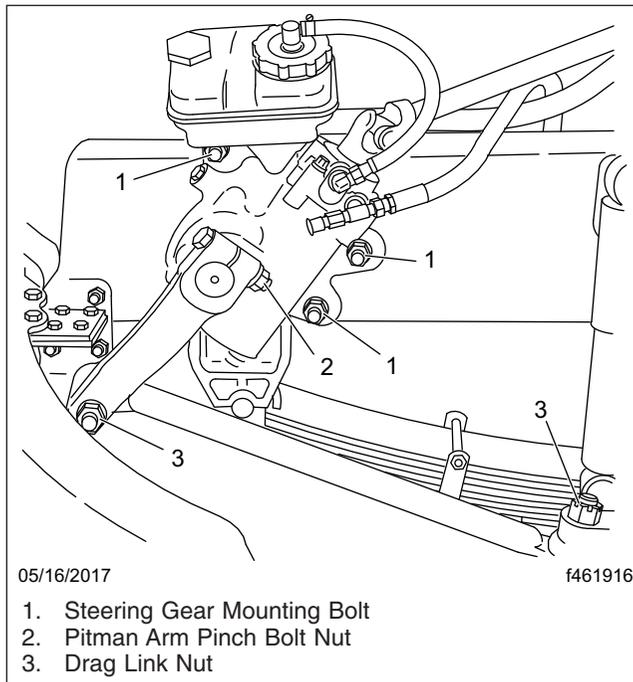

Fig. 12.12, Steering Gear Fasteners
3.1 Inspect tie rods, steering arms, and the drag link for signs of looseness (i.e., shiny spots or rust tracks). See Fig. 12.12.